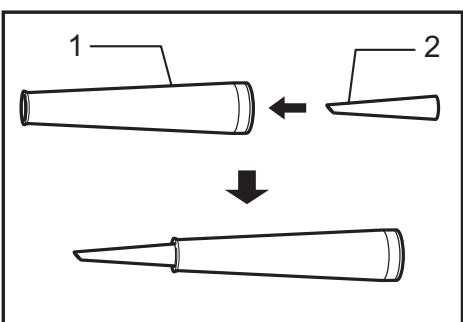

Fig.4
► Fig.4: 1. Nozzle 2. Sash nozzle